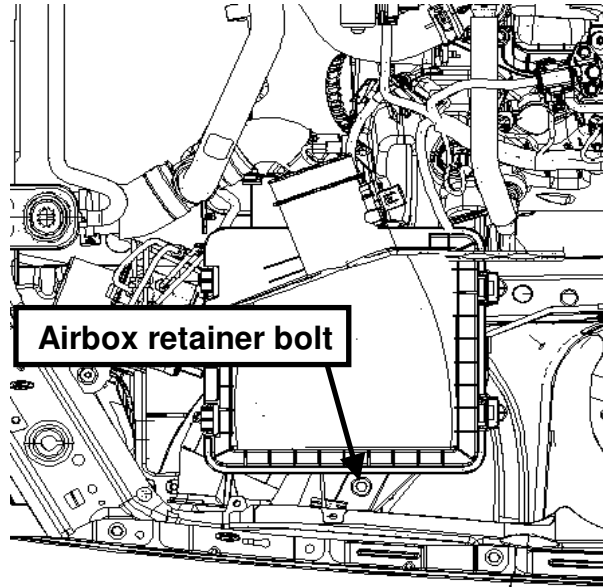

Fig. 2
**STEP 5:** Remove the airbox retainer bolt and airbox from vehicle (See Fig. 2).